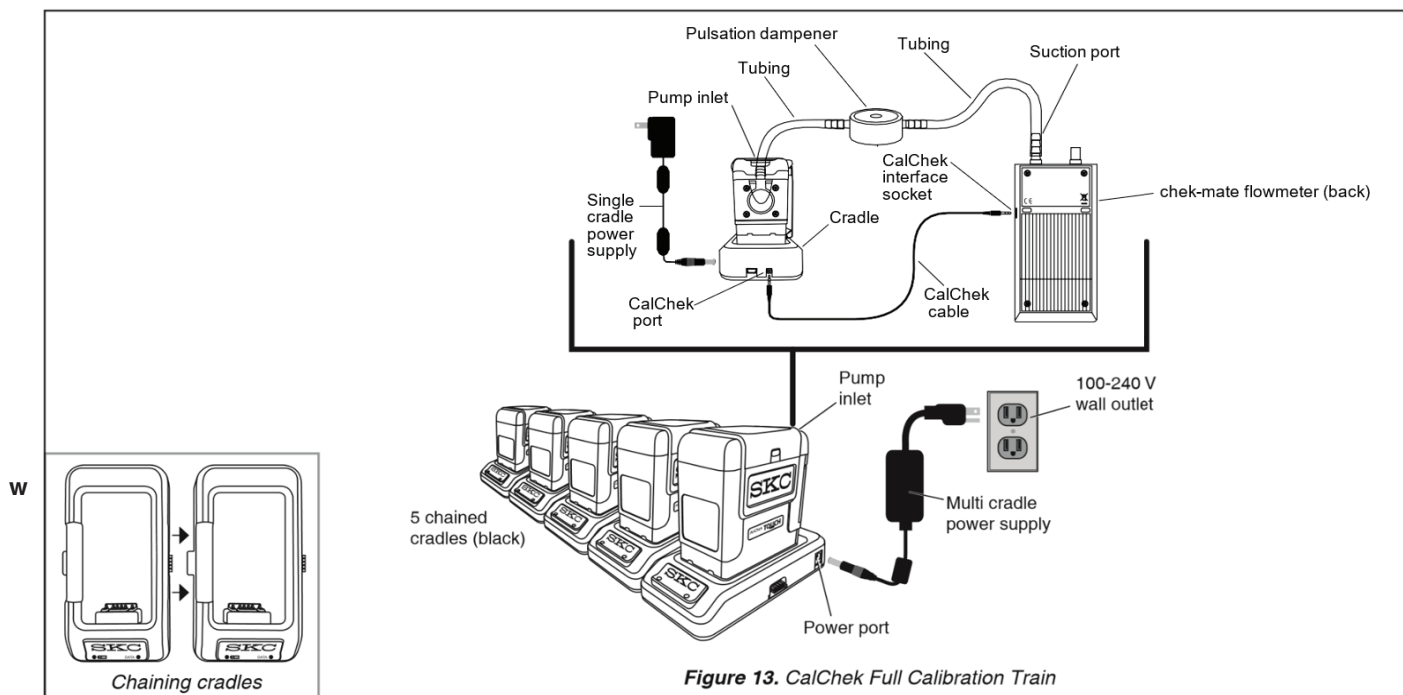

Figure 13. CalChek Full Calibration Train
**CalChek Full Calibration**, also known as CalChek Full or Multiple-point Calibration, is used to calibrate the pump compensation system across the range of operational flows following maintenance/repair. Full Calibration requires a Medium Flow chek-mate Flowmeter with CalChek (see *Accessories*), Standard Charging Cradle Cat. No. 220-800 or Charging e-Cradle Cat. No. 220-900, CalChek Communication Cable Cat. No. 375-200, and Pulsation Dampener Cat. No. 375-100. CalChek Full Calibration is performed without a sampling medium in line; the pulsation dampener is used in place of the sampling medium. See *Figure 13*.
2. Set up a calibration train (see *Figure 13*).
4. Ensure calibration train, **without** sampling medium and **with** Pulsation Dampener in line, is in place (*see Figure 13*). Touch checkmark to accept CalChek selection.